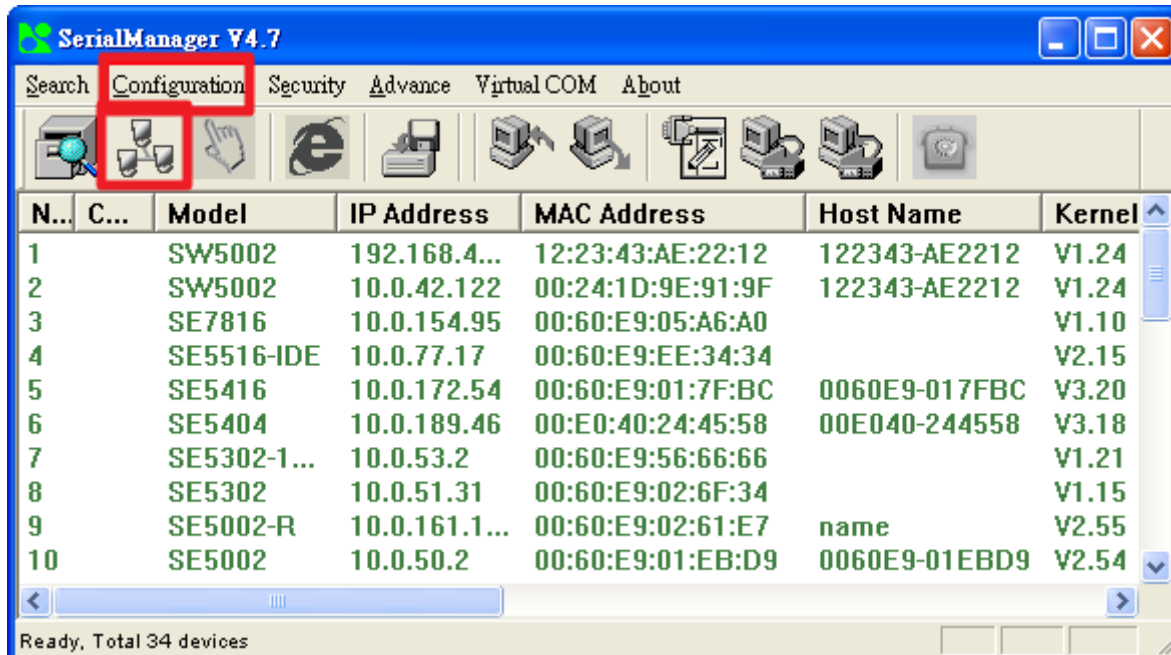

Figure 3.1 Configure by SerialManager
- >Execute SerialManager (Figure 3.1)
->Execute SerialManager (Figure 3.1)